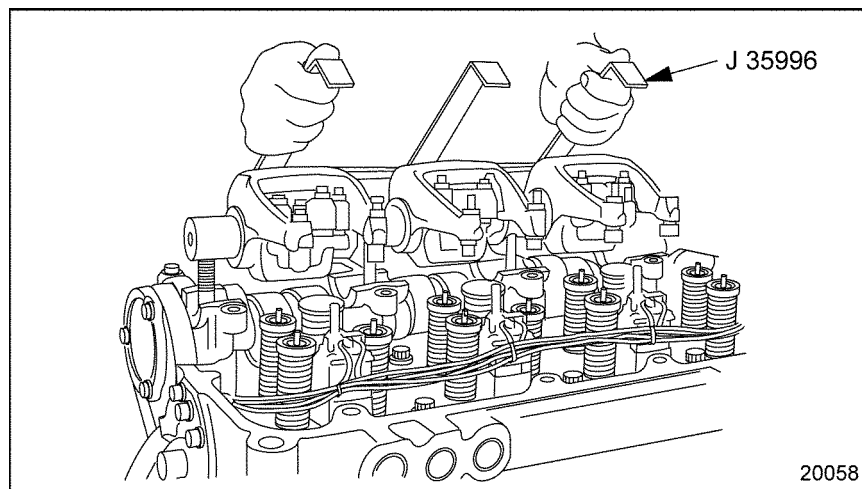

Figure 7-2 Rocker Arm/Shaft Assembly Removal/Installation
7. Remove all the rocker shaft mounting bolts and nut from the front or rear rocker shaft assembly. Using rocker arm lifter (J-35996-A), see Figure 7-2, lift the assembly straight up and off of the head and place in a clean area on the bench.